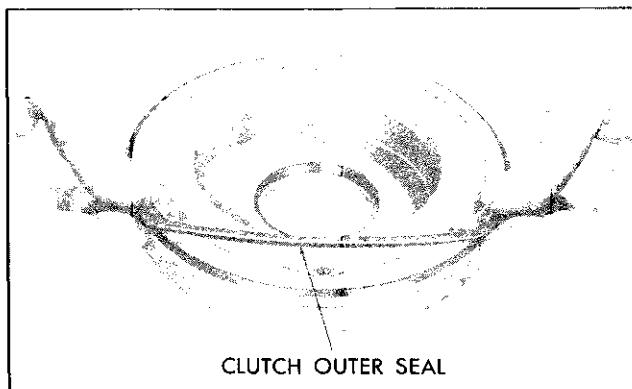

Fig. 7E-96 Installing Direct Clutch Piston Outer Seal
The direct clutch piston can be identified by the ball check installed in the casting. (Fig. 7E-99)
4. Place seal protectors, tools J 21362 Inner and J 21409 Outer, over hub and clutch housing and install clutch piston with a rotating motion (Fig. 7E-98).
5. Install sixteen (16) springs (plain) into piston.